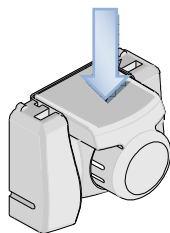

Figure 2-12
2. Press the red insert down as far as it will go. See Figure 2-12.
4. While holding onto the lower part of the locator with your thumb and index finger, insert the locator top hooks (2) into the Power Crimp Head top slots.